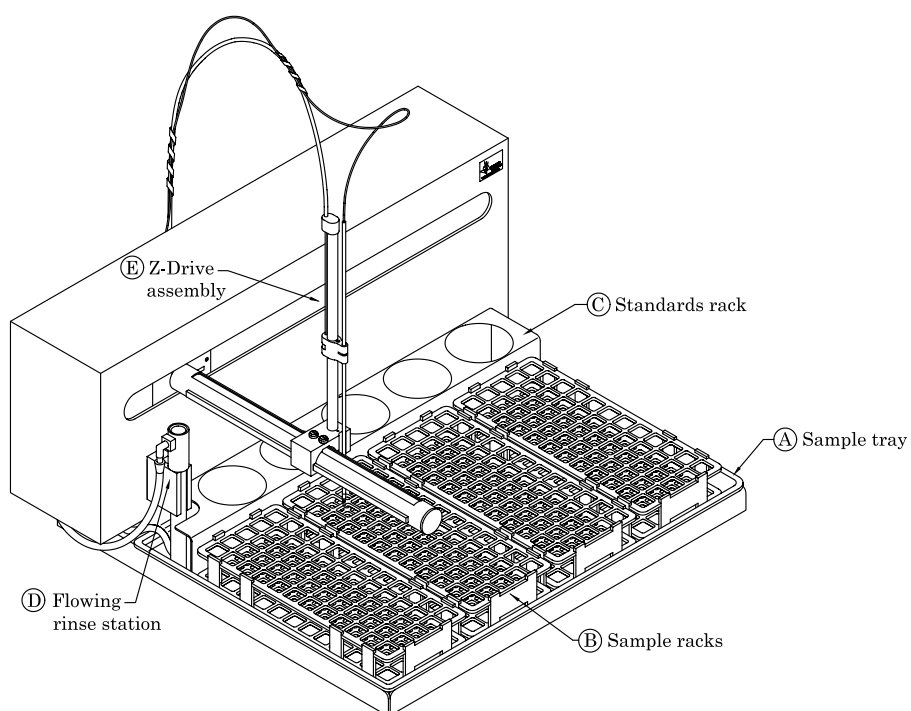

Figure 1-1. ASX-500 Model 510 Auto Sampler—Front View.
The following standard components are located on the front of the Model 510 and are shipped with the Auto Sampler. Each lettered item corresponds with a callout in Figure 1-1.
- 5 Verify that the probe tip clears the top of the rinse station when the Auto Sampler is in the home position (Figures 1-1, 3-1) above the rinse station.**